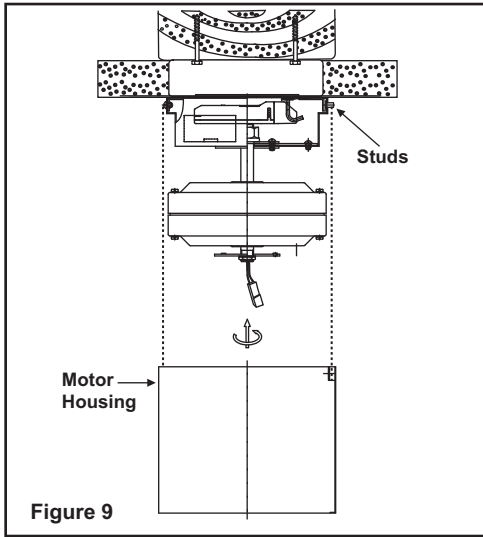

Figure 9
Step 2. Raise the motor housing up against the mounting bracket, the four supports inside the housing should be placed against the four studs on mounting bracket, twist the housing clockwise until snug. (Fig. 9).